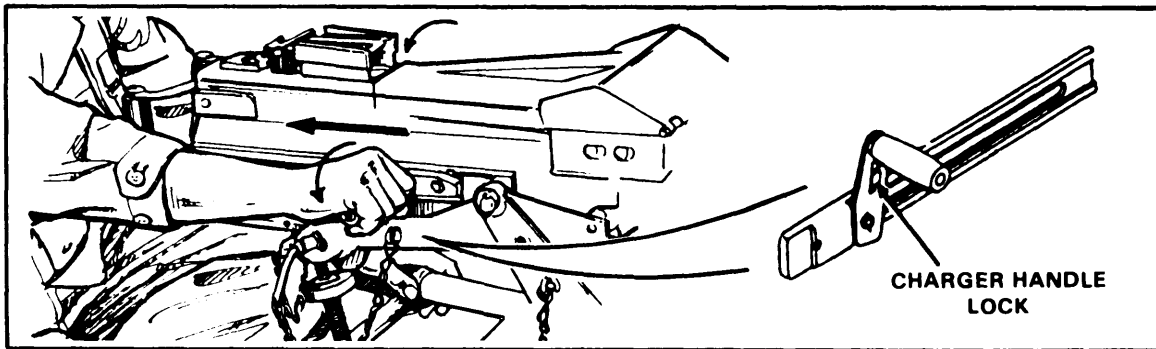

Figure 2-4. Charger handles.
(5) Lower and pull both charger handles to the rear (Figure 2-4).